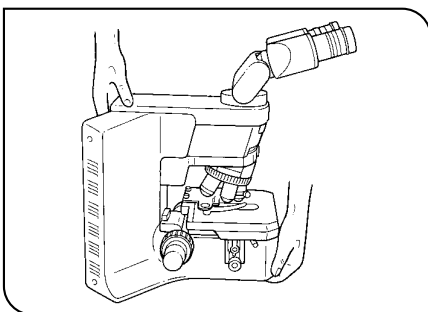

Fig. 3
3. When moving the microscope, remove the specimen and modules that may drop during transport and carefully carry it with the grasping part on the rear of the arm and the base as shown in Fig. 3 (Weight: approx. 14 kg).